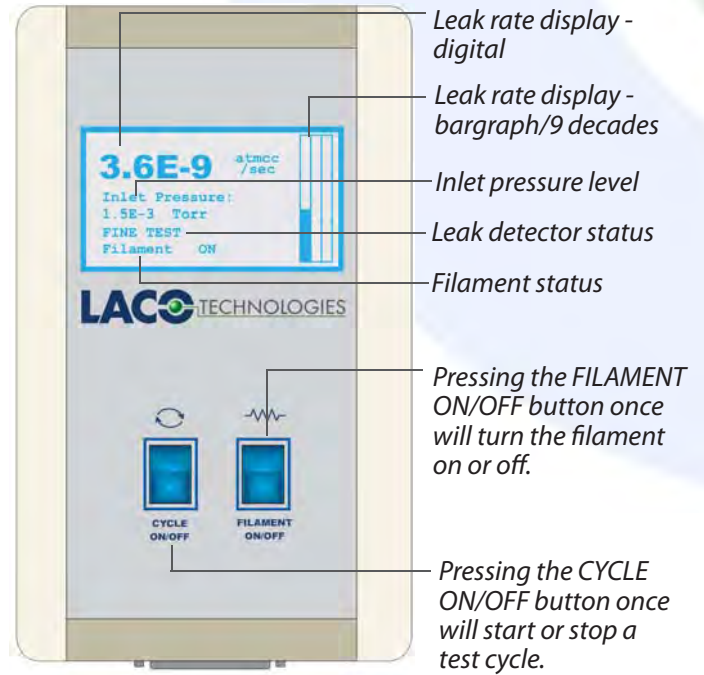
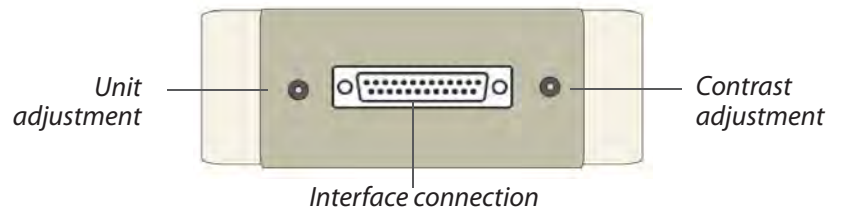

FIGURE 1
FIGURE 2
1. Check the leak rate units (Figure 1). The pendant displays either atm-cc/sec or mbarliter/sec units. Adjust the leak rate units by turning the unit adjustment pot (Figure 2).
6. Adjust the display contrast by turning the contrast adjustment pot (Figure 2) CW or CCW until the desired contrast is obtained. The unit is ready to use.